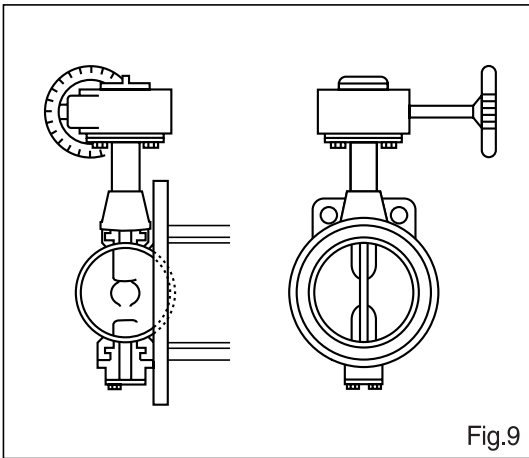

Fig.9
- **Check piping sizes** : Check the valve sizes fit the piping sizes. (Fig.9)